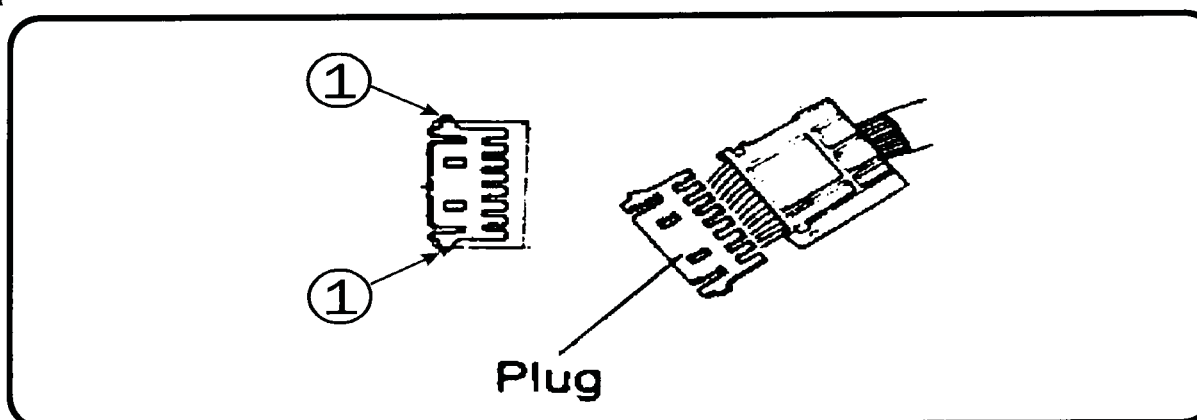

Figure 3.
The **EC-AT Control Unit** has a 20 pin connector and a 16 pin connector going to it. When checking solenoids, switches, sensors, and wiring, it is sometimes necessary to test the voltage readings at the Control Unit. Figures 4 and 5 identify the EC-AT connector pins, as viewed from the wire side, and show voltage checks that can be made. The conditions necessary for the voltage tests are shown on the right side of the charts. When making these voltage checks, the plastic wire plugs must be removed from the back of the connectors. To do this, first remove the connectors from the EC-AT Control Unit. Next squeeze the ends of the plastic plugs, (1) in Figure 3 and remove the plugs. Now the connectors can be re-installed into the EC-AT Control Unit so that the voltage checks can be performed.